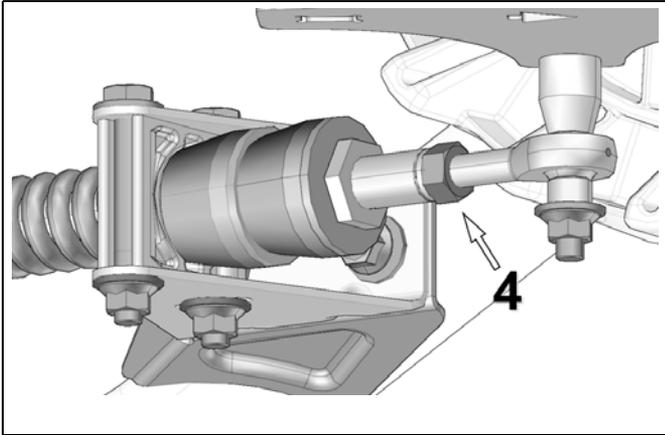

Figure 17
- Re-tighten jam nut (4) to 40 N•m [30 lb•ft] of torque when adjustment is complete. See Figure 17.